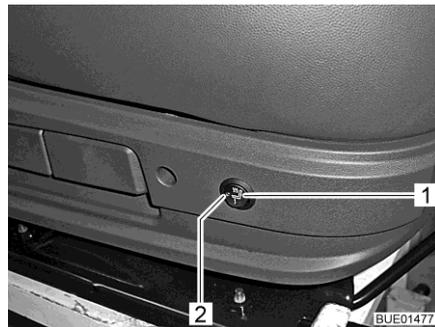

Fig. 28 Switch for seat heater
- Press the switch (Fig. 28,1) at the back on the left side of the seat console.
The LED (Fig. 28,2) comes on when the seat heater is in use.
- Set switch (Fig. 28,1) to the middle position. The LED goes out.